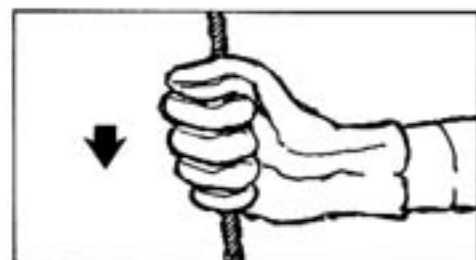

Figure 4
4. While in the fall-arrest mode, test the locking action (fall arrest) capability of the Recovery Unit by pulling out approximately 2 feet (.6m) of cable from housing, then give the cable a quick, hard, downward tug. The cable should stop and lock. (See Fig. 4)